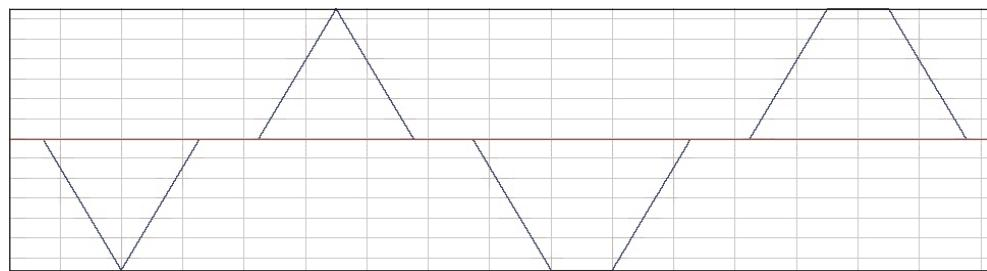

Figure 5.7: Test signal of the adaptive DSP filter
- Test FullScale - You carry out a full scale test. During this test a test signal is generated which you can use to make sure that on a connected signal evaluation system the adaptive DSP filter is working. The test signal thus generated (frequency approx. 30 Hz, amplitude 20.0 Vp-p) is shown in FIGURE 5.7.